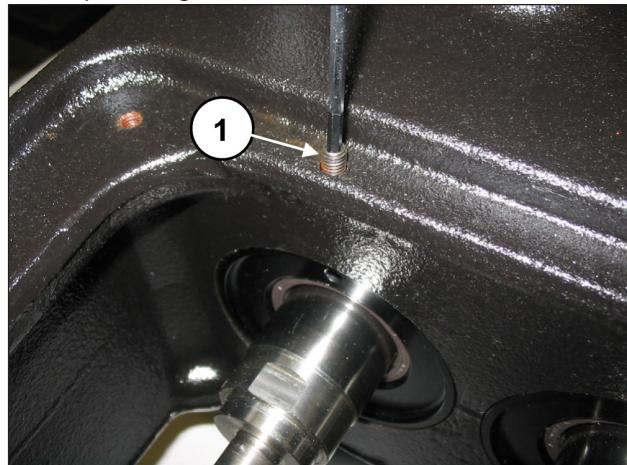

Fig. 2
Remove the three spray-guard spacer rings and the spray-guards, as shown in par. 2.2.3 (Fig. 143 and Fig. 144). Unscrew the M6 locking grub screws of the three oil seal covers (pos. ①, Fig. 2).